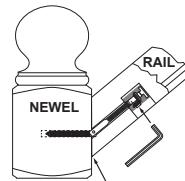

Fig. 5
10. Slide the rail on to the bolt and "dry fit" to be sure of proper angle and fit. If another cut is needed, take the least amount off to correct cut (Fig. 5). The 3/8" deep hole that was drilled should allow enough room for you to make this adjustment.